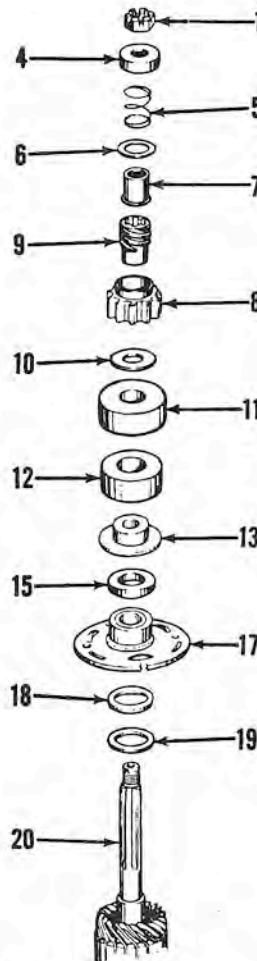
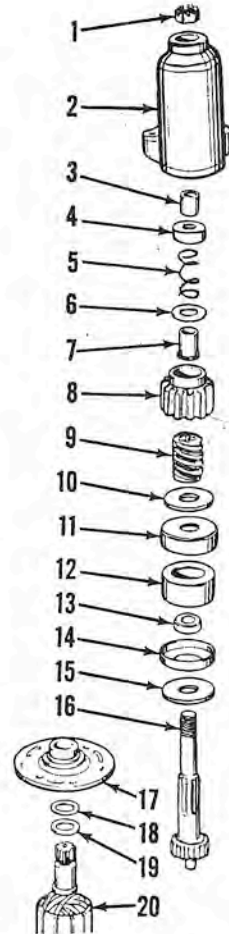

Fig. J120—Exploded view of starter drive used on two cylinder models.
Fig. J121 — Exploded view of gear reduction starter drive used on four cylinder models.
The starter drive unit is assembled on the armature shaft on two-cylinder motors as shown in Fig. J120. Four-cylinder motors use a separate jack shaft driven by a pinion on armature as shown in Fig. J121. Most drive units use a rubber cushion (12) to absorb the shock as starter is engaged. The Bendix drive unit should be lightly lubricated with a non-gummy graphite oil or light grease, and cleaned occasionally to permit free engagement and disengagement.
Note sequence of disassembly and refer to Fig. J120 or J121, to be sure parts are assembled in proper order on shaft. Tighten shaft nut (1) until rubber cushion is slightly compressed, then continue tightening until cotter pin hole in shaft is aligned. Do not back off the nut to install cotter pin.